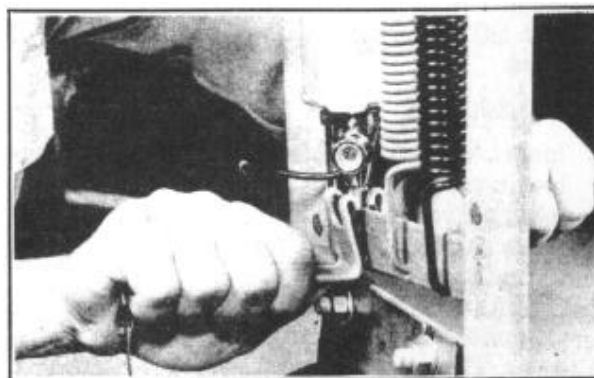

FIGURE 156
2. Clamp the regulator cross arm in a vise and remove upper and lower spring steel retaining clips, using Tool KM0-623, Figure 156, and remove cylinder.